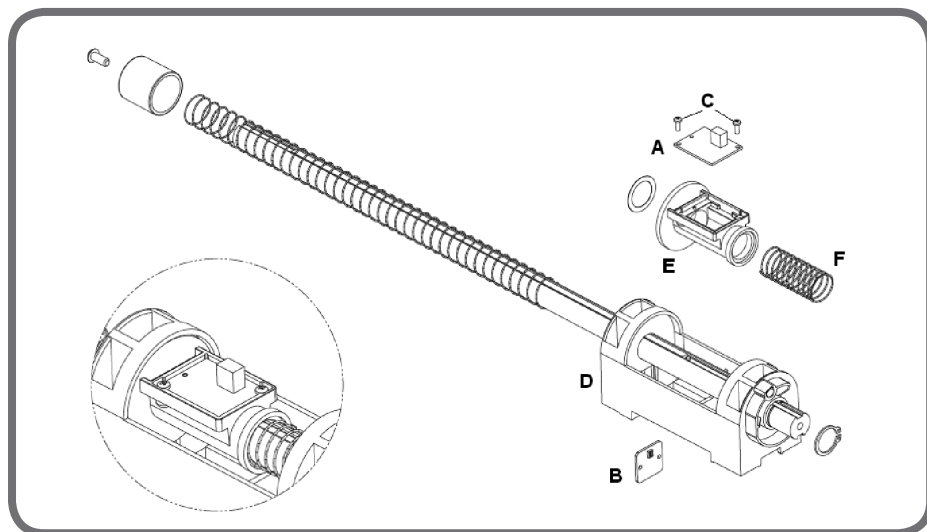
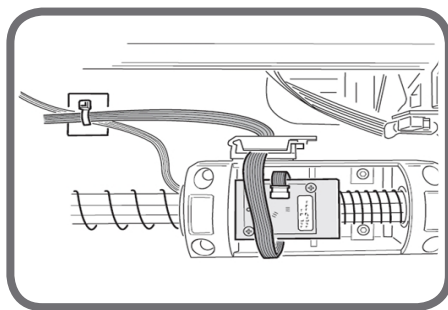

Fig. 6
Fig. 8
If the sensor (B, Fig. 6) does not read, check:
If the checks above produce a negative result, replace the sensor (B, Fig. 6) as follows:
- disassemble the measuring sensor support (D, Fig. 6), using the 4 fixing screws, from the internal plane;
If the sensor (A, Fig. 6) does not read, check:
- unscrew the two self-threading screws (C, fig. 6) then remove the sensor from the sensor support (E, Fig. 6);
- if the sensor A flat must be replaced, check that the flat is reconnected correctly (see Fig. 8) on the card. Also, the fixing of the flat on the base must be done so that it is long enough for moving the sensor without having the cable risk to twist around the inside of spring F figure 6.